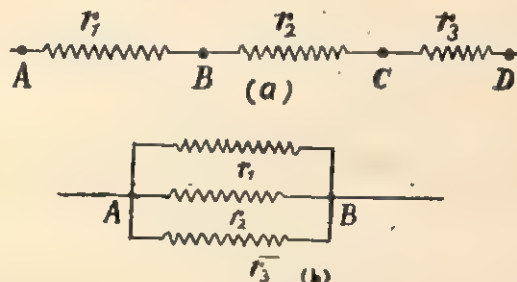

Fig. 12.17.
**Theory.** Two or more than two resistances, say  $r_1, r_2, r_3$  etc. are said to be connected in **Series** if they are connected end to end as shown in Fig. 12.17 (a). The resultant resistance  $R$  of the series combination between the ends  $A$  and  $B$  is given by
Thus the resultant resistance  $R$  is larger than the individual resistances. Two or more than two resistances, say  $r_1, r_2, r_3$ , are said to be connected in **Parallel** when one end of each coil is connected at one point, say  $A$ , and their other ends are connected to another common point, say  $B$  as shown in Fig. 12.17 (b). The resultant resistance  $R$  of this parallel combination between ends  $A$  and  $B$  is given by the equation